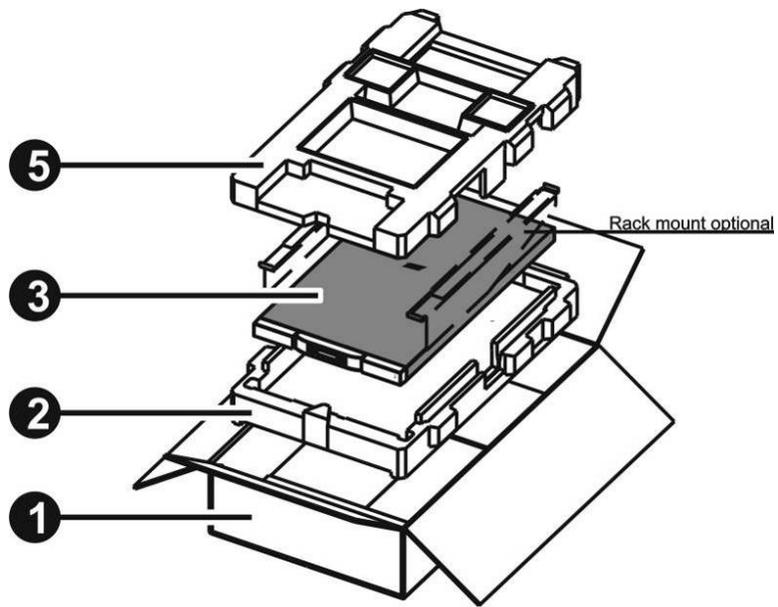
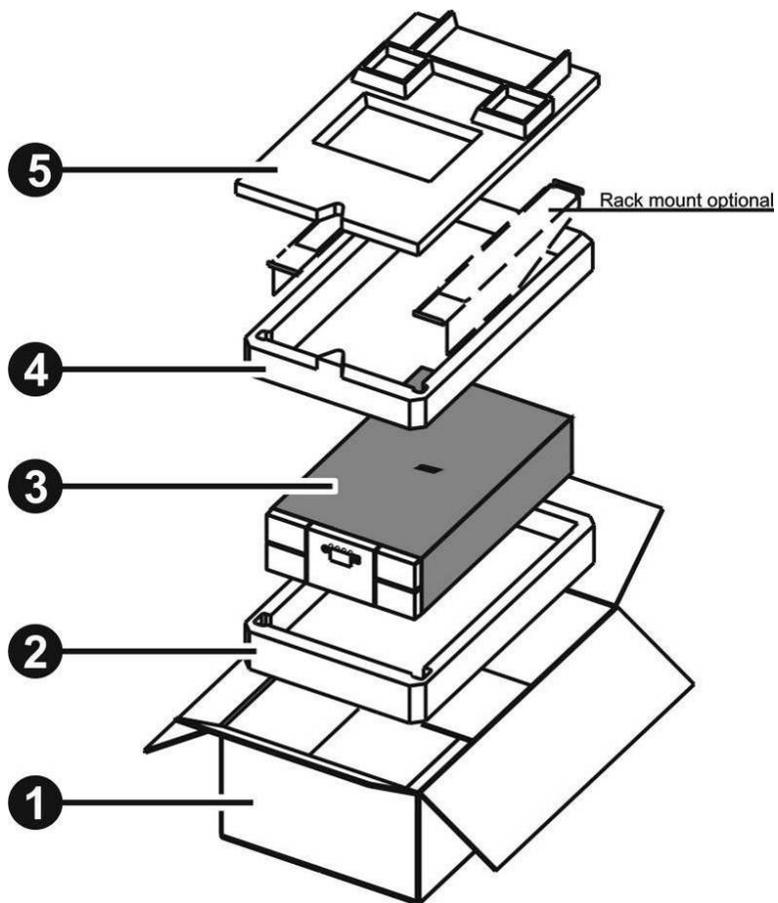

Figure 70 Packaging the Q24 library
Figure 71 Packaging the Q48 library
3. Package the appropriate library as shown in **Figure 70** or **Figure 71**.